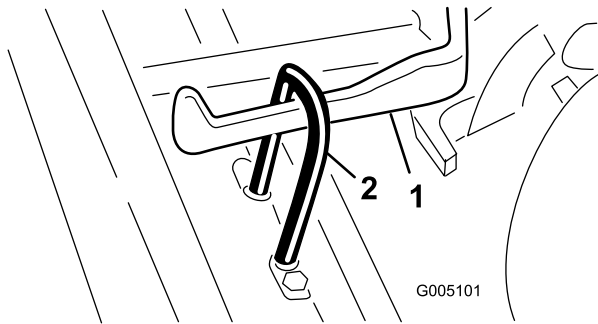

Figure 7
2. Slide the cutting unit under the pull frame while hooking the lift hook onto the lift arm (Figure 7).